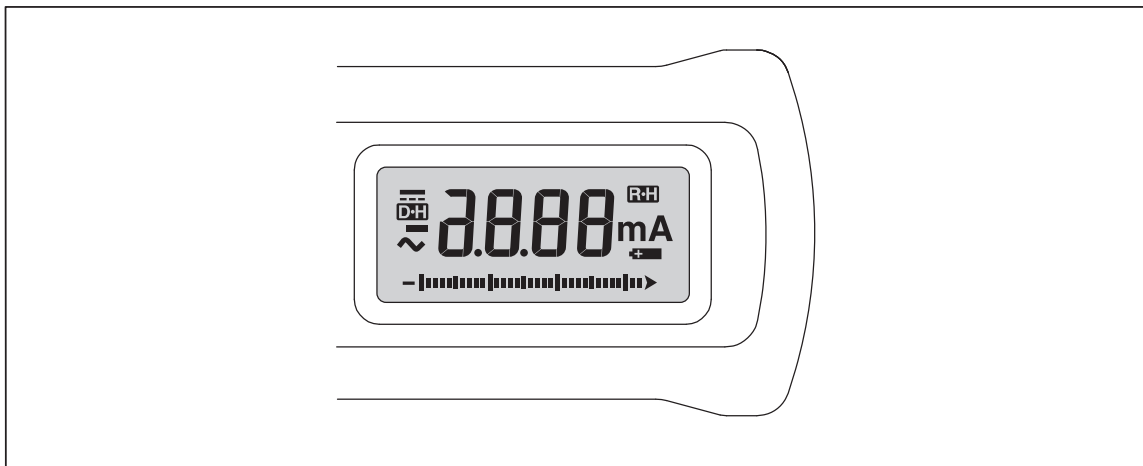

Figure 2. LCD Test
2. Compare the LCD with the example in Figure 2.